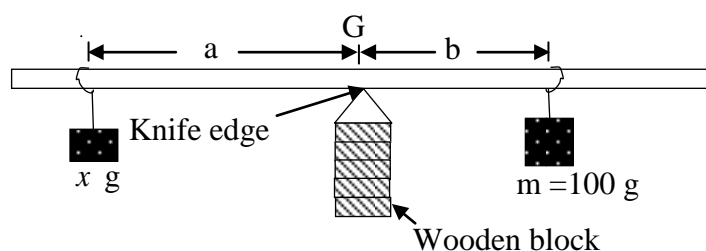

Figure 18
- Adjust the position of x until the ruler balances in a horizontal position as shown in Figure 18:
- Read and record length “a” and “b” as shown in Figure 18.